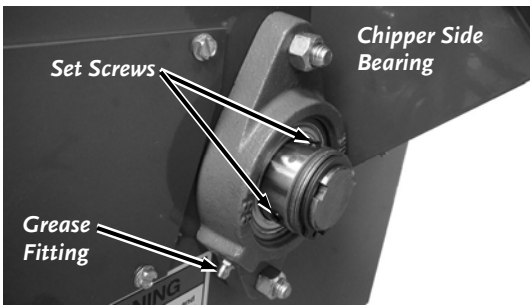

Figure 14
1. Wipe all dirt, etc., from the Grease Fitting(s) with a clean cloth (**Figure 14**).
3. After greasing, check the Side Bearing Collar Set Screws (**Figure 14**) for tightness with a 5/32" Allen Wrench. There are two Set Screws per Bearing. If they are loose, reset them with Loctite® 243, obtainable at most hardware stores.